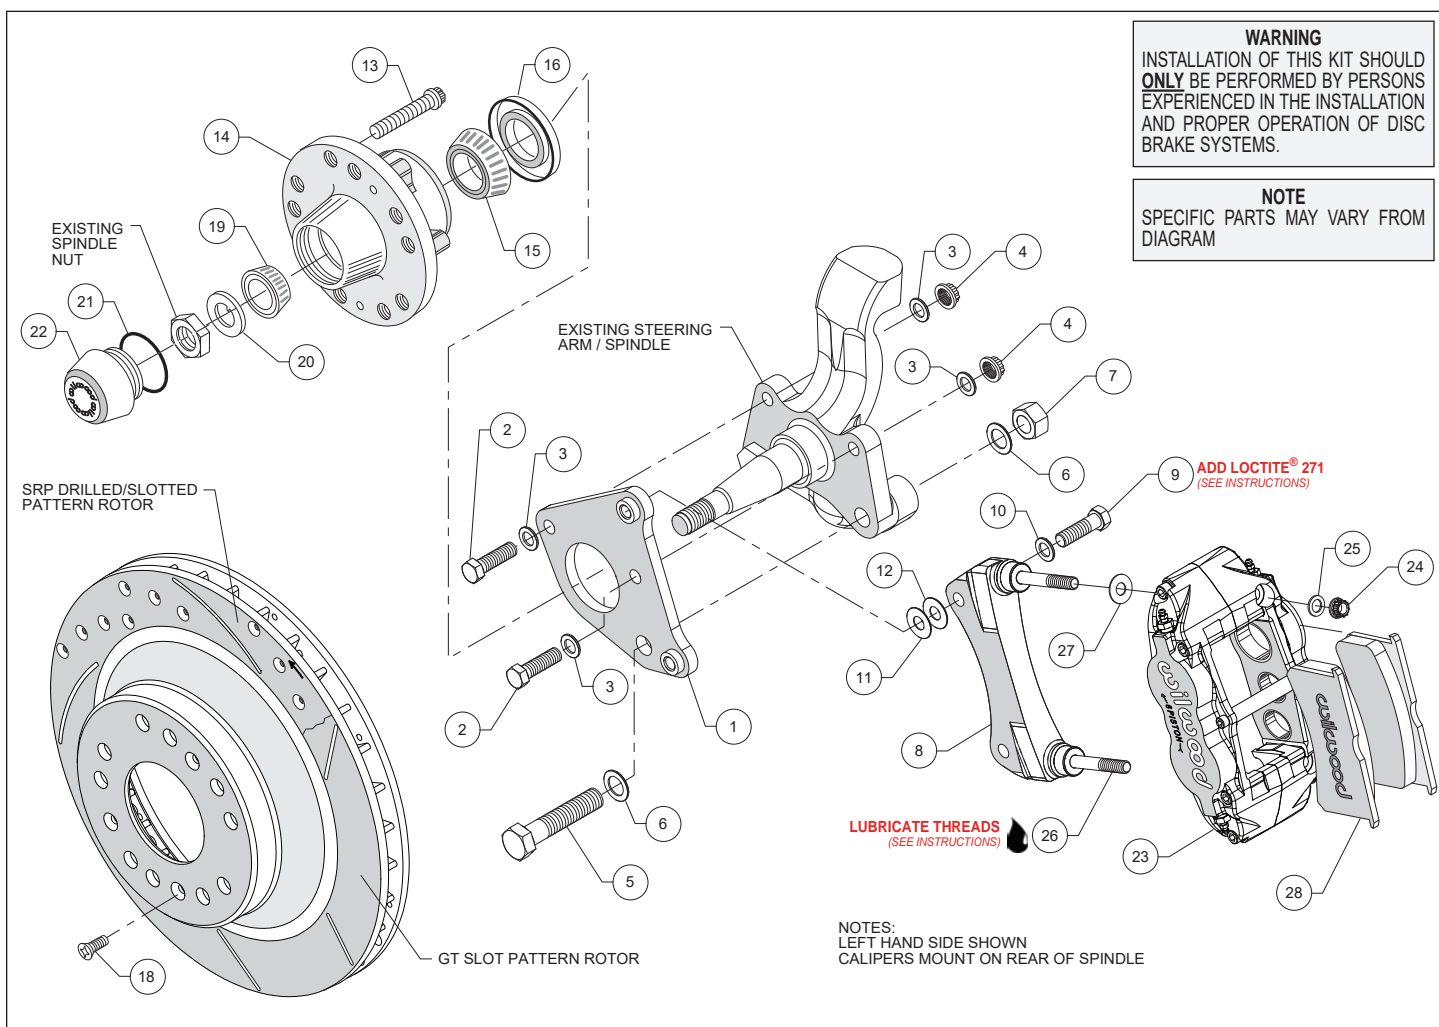
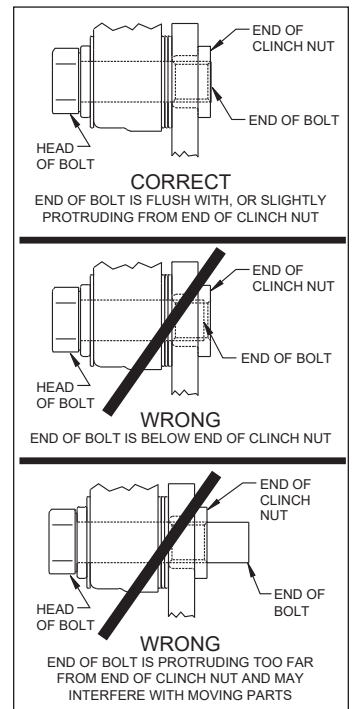

Figure 1. Typical Installation Configuration
Figure 3. Clinch Nut Engagement Diagram
Assembly Instructions (numbers in parenthesis refer to the parts list, and Figure 1): **CAUTION:** All mounting bolts must fully engage clinch nuts. Be sure to check that all bolts are either flush or protruding through flanged side of clinch nut after shimming, Figure 3.
- The flat caliper mount bracket (1) should initially be installed with clean, dry threads on the mounting bolts. Orient the bracket as shown in Figure 1, and install using bolts (2/5), washers (3/6) and secure with nuts (4/7). **NOTE:** Be sure the heads of the caliper bracket (1) insert nuts are facing outward toward the wheel. Temporarily tighten the mounting bolts. **NOTE:** The bracket must fit squarely against the spindle face. Inspect for interference from casting irregularities, machining ridges, burrs, etc. After the bracket alignment has been checked, remove the bracket mounting bolts one at a time and apply red *Loctite*[®] 271 to the threads. Torque lock nuts (4) to 47 ft-lbs., and lock nut (7) to 140 ft-lbs.
- The caliper mount bracket (8) should initially be installed with clean, dry threads on the mounting bolts. Orient the bracket as shown in Figure 1, and install using bolts (9) and washers (10). Initially place one .016" thick shim (11) and one .030" thick shim (12) on each bolt between the flat bracket (1) and radial mount caliper bracket (8), Figure 1. Temporarily tighten the mounting bolts. **NOTE:** The radial bracket must fit squarely against the inboard side of the flat mounting bracket. Later, after the caliper alignment has been checked, the mount bolts will be secured using red *Loctite*[®] 271.
- Install wheel studs (13) into the hub (14), Photo 1. Torque to 77 ft-lb. **NOTE:** There are two five lug patterns in the hub (5 x 4.50 and 5 x 4.75). Ensure the correct hub stud pattern is being used to fit the wheel application.
- Pack the large inner bearing cone (15) with high temperature disc brake bearing grease (available from your local auto parts store) and install into the backside of the hub (14), Photo 2.
- Install the grease seal (16) by pressing into the backside of the hub (14), flush with the end of the hub, Photo 2.
- Pack the small outer bearing cone (19) with high temperature disc brake bearing grease and install into hub (14). Slide the hub assembly onto the spindle. Secure using spindle washer (20) and OEM spindle nut, Photo 3. Adjust bearings per OEM specifications. Install saved OEM nut lock (if any) and a new cotter pin (not included).
- **NOTE:** This kit contains distinct right and left hand calipers that must be mounted in a specific direction, as described below. Lubricate the caliper mounting studs (27) with lightweight oil. Initially place one .035" thick shim (19) on each stud between the caliper and the bracket, as shown in Figure 1 and Photo 5. Mount the caliper (23) onto the bracket (1) using lock nuts (24) and washers (25), Figure 1. Ensure that the caliper is mounted so the largest pistons are at the rotor exit end of the caliper, in relation to the direction of rotor rotation. Temporarily tighten the lock nuts and view the rotor through the top opening of the caliper. The rotor should be centered in the caliper, Photo 6. If not, adjust by adding or subtracting shims (11 and/or 12) between the flat bracket and the radial mount bracket. Always use the same amount of shims on each of the two mounting bolts. Once the caliper alignment is correct, remove the radial mount bracket bolts one at a time, apply red *Loctite*® 271 to the threads, and torque to 60 ft-lb.